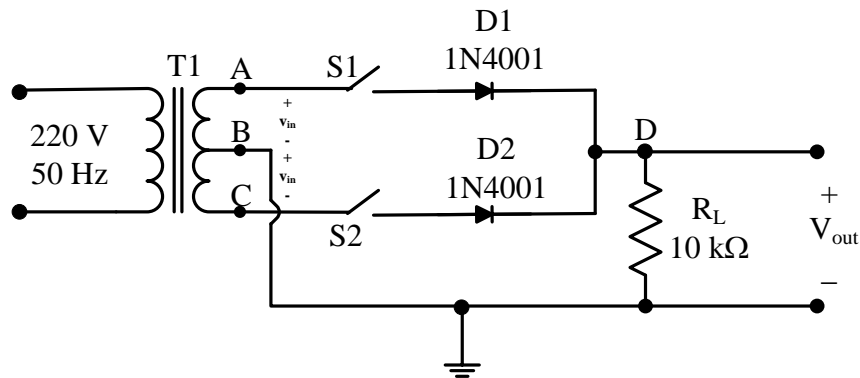

Figure 6-7: A half-wave and full-wave rectifier circuit.
1. Connect a half-wave rectifier circuit shown in Figure 6-7.